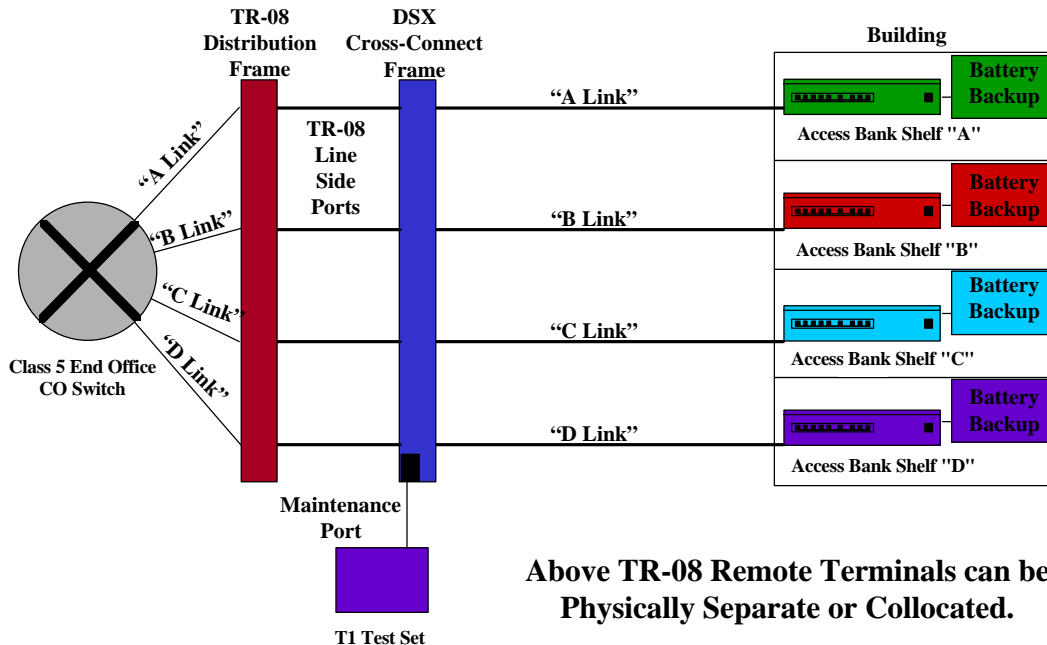

Figure 7-1: Generic Access Bank I TR-08 Operation
provisions single shelf groups (designated as either shelf A, B, C, or D) using a single, non-protected T1 line (designated as either Link A, B, C, or D, respectively) through programmable assignment from the serving Central Office (CO) switch. See Figure 7-1 below for a generic TR-08 implementation using the TR-08 Access Bank Is as Remote Terminals (RTs).